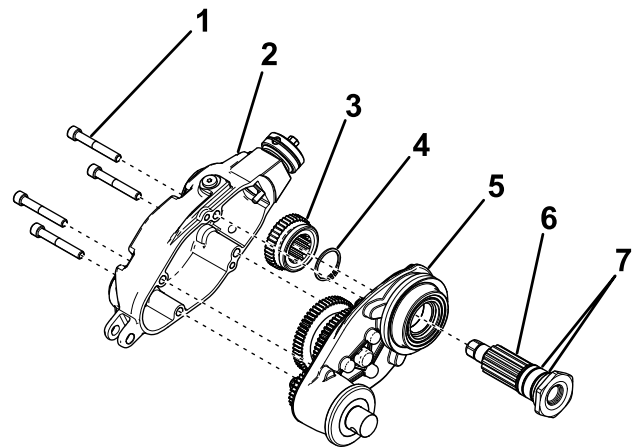

Figure 5
1. Install 2 O-rings onto the drive shaft (Figure 5).
2. Insert the new drive shaft into the groomer housing (Figure 5).
3. Install the previously removed retaining ring and driver gear (Figure 5).
4. Secure the groomer cover to the groomer housing using the 4 previously removed bolts (Figure 5), and torque them to 8 to 10 N·m (75 to 85 in-lb).